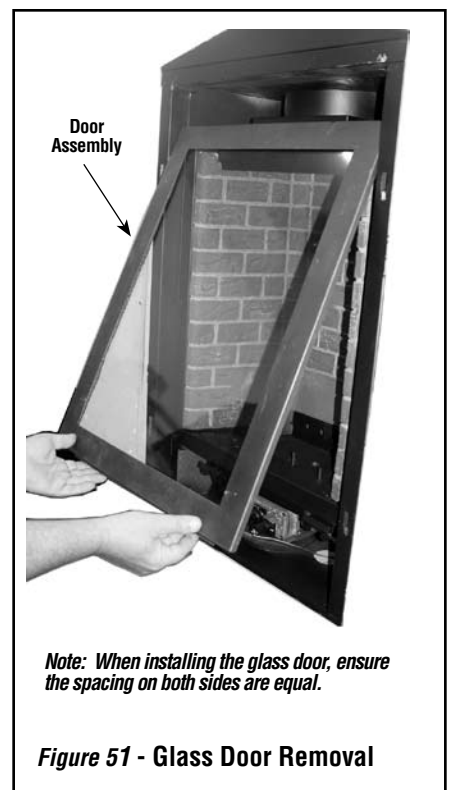

Figure 51 - Glass Door Removal
3. Swing the bottom of the door out (see Figure 51) and raise it slightly to lift the top flange of the door frame away from the appliance.
2. Position the glass enclosure panel in front of the firebox opening at a 45 degree angle and engage the top flange over the lip at the top of the firebox opening (read important note above) (see Figure 51).